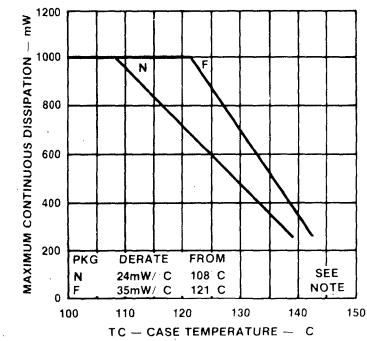
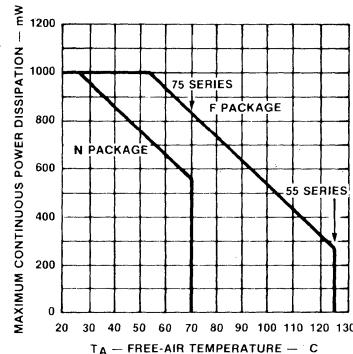

FIGURE 8
FIGURE 9
2. For operation above 100°C case temperature, refer to Dissipation Derating Curve, Figure 8. For dissipation ratings in free-air, see Figure 9.